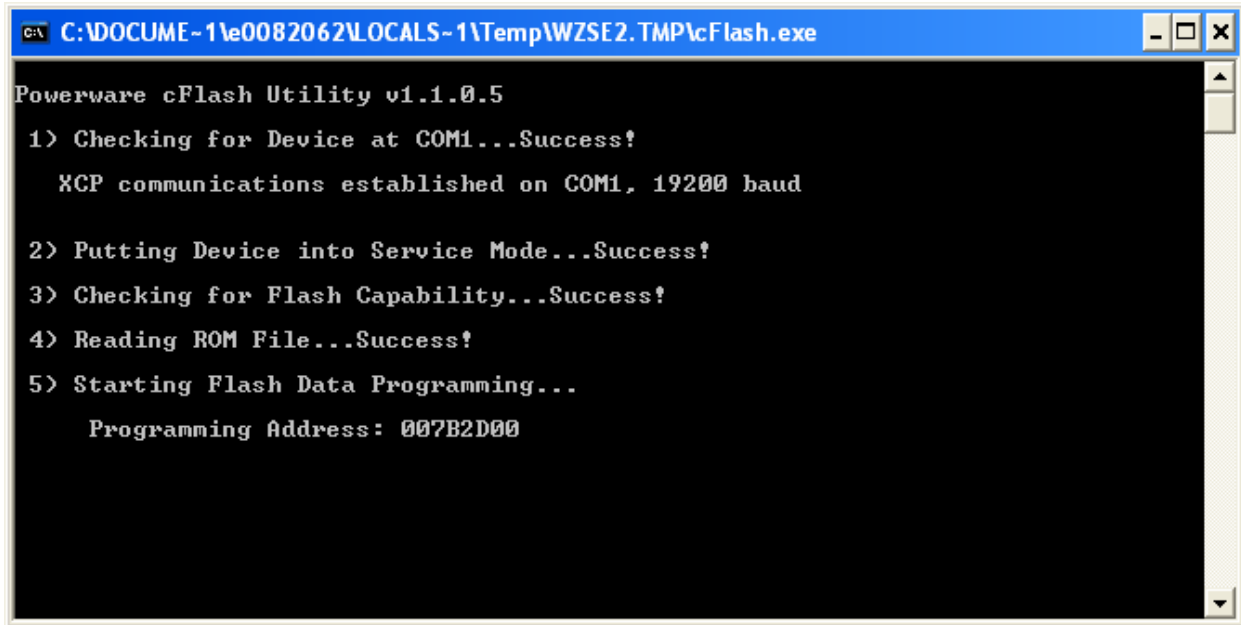

Figure 4 (Batch File upgrade, window closes when complete) Example
4. Run the batch file from the windows/run dialog or a command line window to start the upgrade. If the flash process fails, restart the upgrade by running the batch file again. Figure 4 represents the command window during the upgrade; after the upgrade is complete the window will close.
5. When the upgrade is complete, (typically 5 to 8 minutes per UPS) the UPS will return back to the mode that it was in when the firmware update was started so either on internal bypass, HE mode, or in a UPS off state. Each module in a system will take approximately 60 to 90 seconds to return to HE (normal) operation after giving the “success” message, and closing the upgrade window after the firmware upgrade is complete. Upgrade the remaining modules by repeating steps four (4) and five (5).